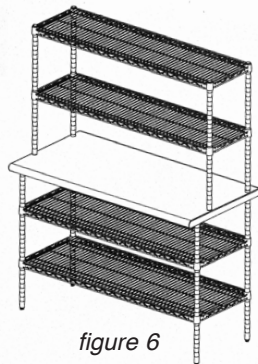

figure 6
- Repeat this step for top overshelf (if 2-tier unit). Refer to *figure 6*.